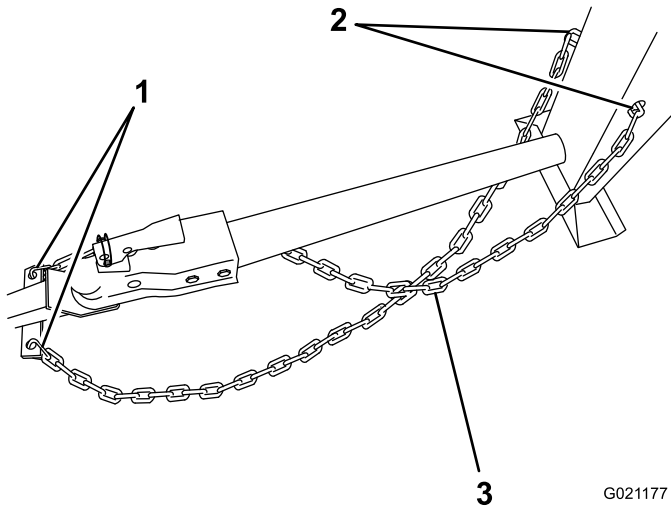

Figure 21
1. Pull the safety chain through the slots in the keyholes located in the front post of the machine, so that the lengths on each side are equal (Figure 21).